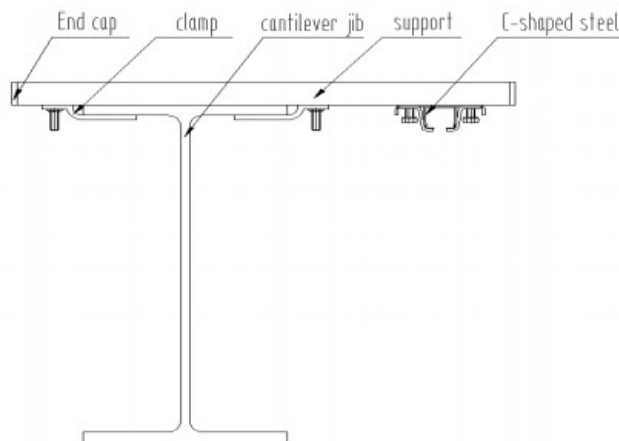

Figure 7-1-3
- d. Installation of C-shaped steel (Figure 7-1-3).